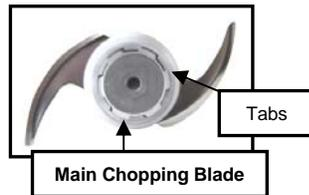

Fig. 3
2. Assemble the main chopping blade onto the spindle. Ensure that the tabs on the underside of the spindle are aligned with the main chopping blade. (Fig. 3)